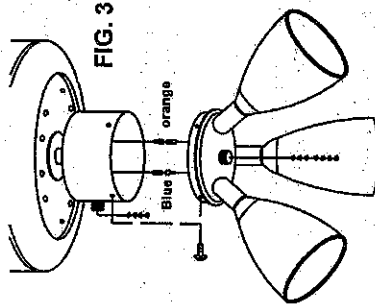

FIG. 3
- Be Careful to collect all wires into switch housing of ceiling fan, then install the light kit to switch housing, replace three screws to tight it. Ensure the light kit is screw firmly. (See Fig 3)/page 5